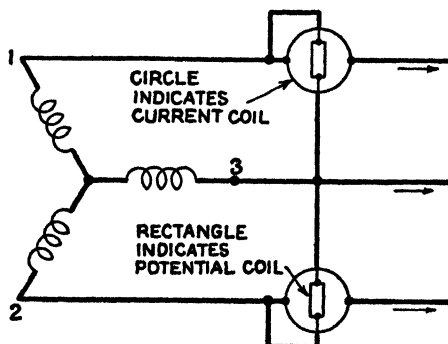

FIG. 4-1.—Three-phase wattmeter connections.
*Ans.* Two wattmeters are generally used to measure the power in a balanced three-phase Y- or delta-connected network. The algebraic sum of the readings of the two wattmeters, if properly connected, gives the true power reading. Figure 4-1 illustrates the connection method.